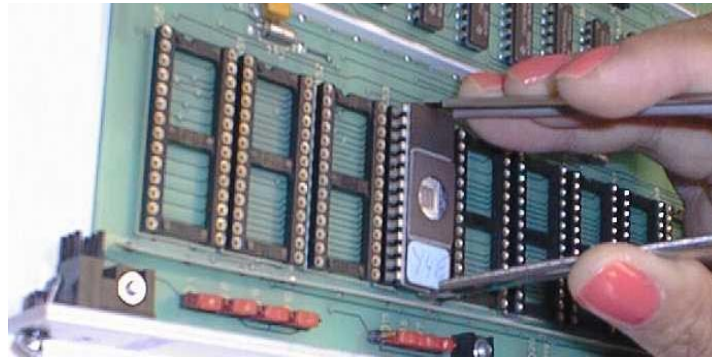

Fig.9 Setting the chip remover on the EPROM chip
- (6) Set the chip remover on the Datachip EPROM (Fig. 9).